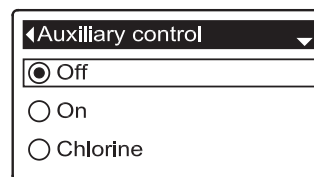

FIG. 79
7. Press the SELECT (O) button to display the Auxiliary control menu (See Figure 79).
8. If the desired option already has a black dot next to it (See Figure 79), go to Step 9. Otherwise, press the DOWN (▼) or UP (▲) buttons to scroll to the desired option, then press SELECT (O) to choose it.